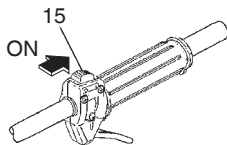

Fig. 11
1. Set ignition switch (15) to ON position. (Fig. 11)